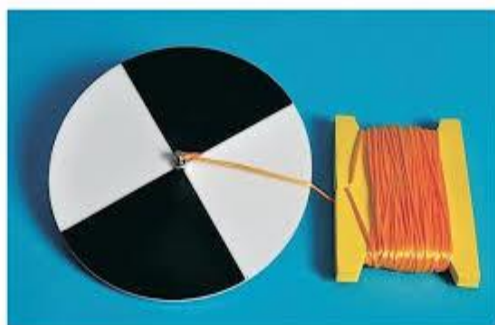

Fig. 4 Secchi Disk
- The Secchi disk (Fig. 4) is a weighted disk, 20 cm in diameter and painted in alternate black and white quadrants, which easily measures turbidity in pond water. The average of depth at which the disk disappears and reappears is the Secchi disk visibility. Optimum Secchi disk visibility for shrimp ponds is 40 - 60 cm. It must be noted that the Secchi disk visibility is affected by both types of turbidity ie (1) that resulting from phytoplankton blooms and (2) that caused by suspended soil particles. The individual taking Secchi disk reading must decide